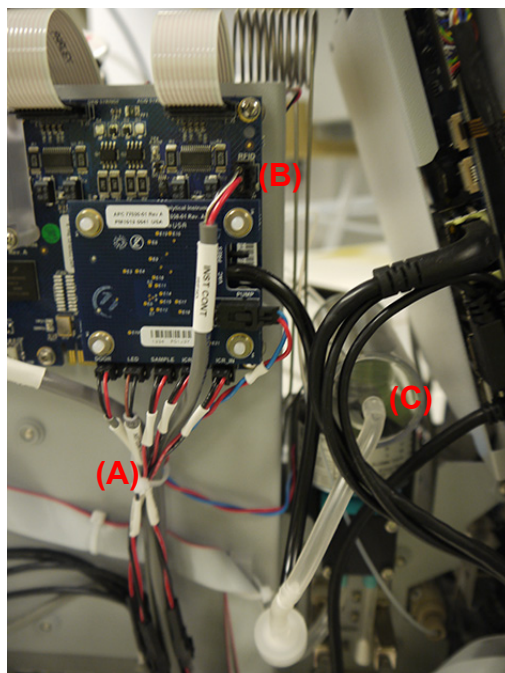

Figure 66: Electronics Side of Analyzer
4. (If needed) Ensure that you are exercising ESD protection and cut the cable tie that is holding multiple ICR interface board cables together **(A)**, (Figure 66).
5. Disconnect the pump cable from the “Pump” connector on the ICR interface board **(B)**, (Figure 66).
6. Disconnect the tubing from the back of the degasser **(C)**, (Figure 66).